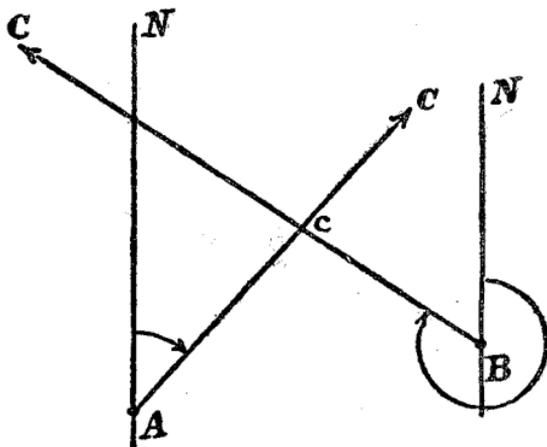

FIG. 140.
**Intersection.**—Knowing A and B, to establish c, take the azimuths AC and BC, their intersection gives (c). (Fig. 140.)